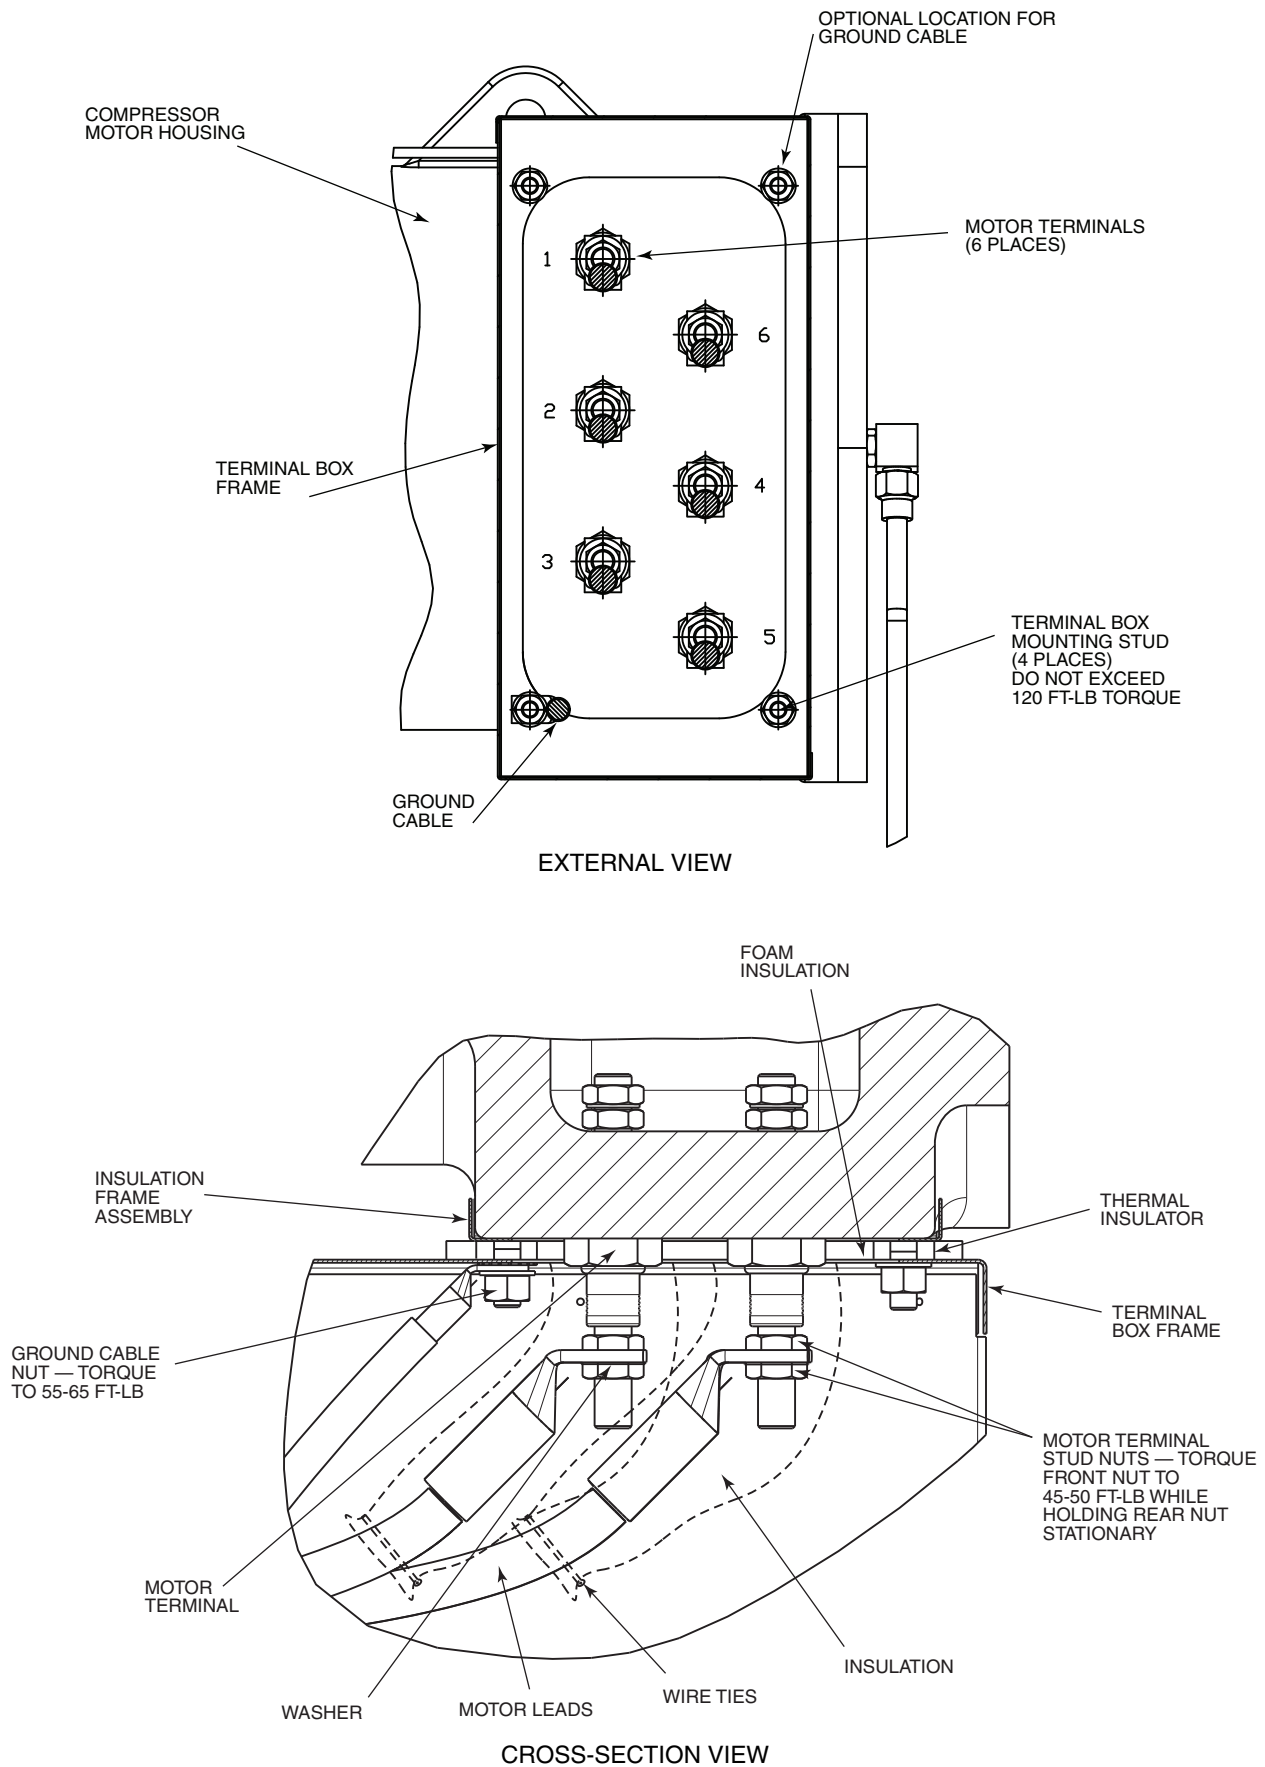

Fig. 22 — Compressor Motor Terminals (Typical)
4. Label and disconnect the motor leads from the motor or VFD terminals (Fig. 22 and 23). Note the position of the motor terminal cable lugs so they can be reinstalled with sufficient clearance away from the surrounding structure. When reinstalling the VFD, assemble the back panel, floor, and tray of the motor terminal box transition piece prior to installing the motor leads.
1. Install terminal box frame mounting studs into tapped holes using short threaded end. Do not exceed 120 ft-lb (163 N-m). See Fig. 22.
4. There may be 1 or 2 motor power cables per terminal identified as T1, T2, and T3. Position motor end lugs on terminal studs with Belleville washer located against the front terminal lug with the convex side facing toward the front terminal nut. Clinch the two cables together with wire ties before tightening terminal nuts. Install front terminal nut finger tight. Hold rear terminal nut stationary while tightening front terminal nut to 45 to 50 ft-lb (61 to 68 N-m). See Fig. 22.
Locate heat shrink tubing (RCD P/N LF33MM114) over power connections so that they are completely covered and tubing is against motor housing. Shrink into position. Slide foam tubing (3 in. inner diameter closed cell vinyl, neoprene, or nitrile foam) partway over the heat shrink tubing. Apply adhesive for closed-cell foam insulation to motor-side end of the foam tubing, and push tubing the rest of the way over the terminal and against the sheet insulation on the motor side. Secure the opposite end of the foam tubing with a wire tie as shown in Fig. 22.
6. Orient PE/ground lug as shown in Fig. 22. Assemble internal/external tooth lock washer between the terminal box frame and the PE/ground cable. Torque PE/ground lug nut to 55 to 65 ft-lb (75 to 89 N-m).